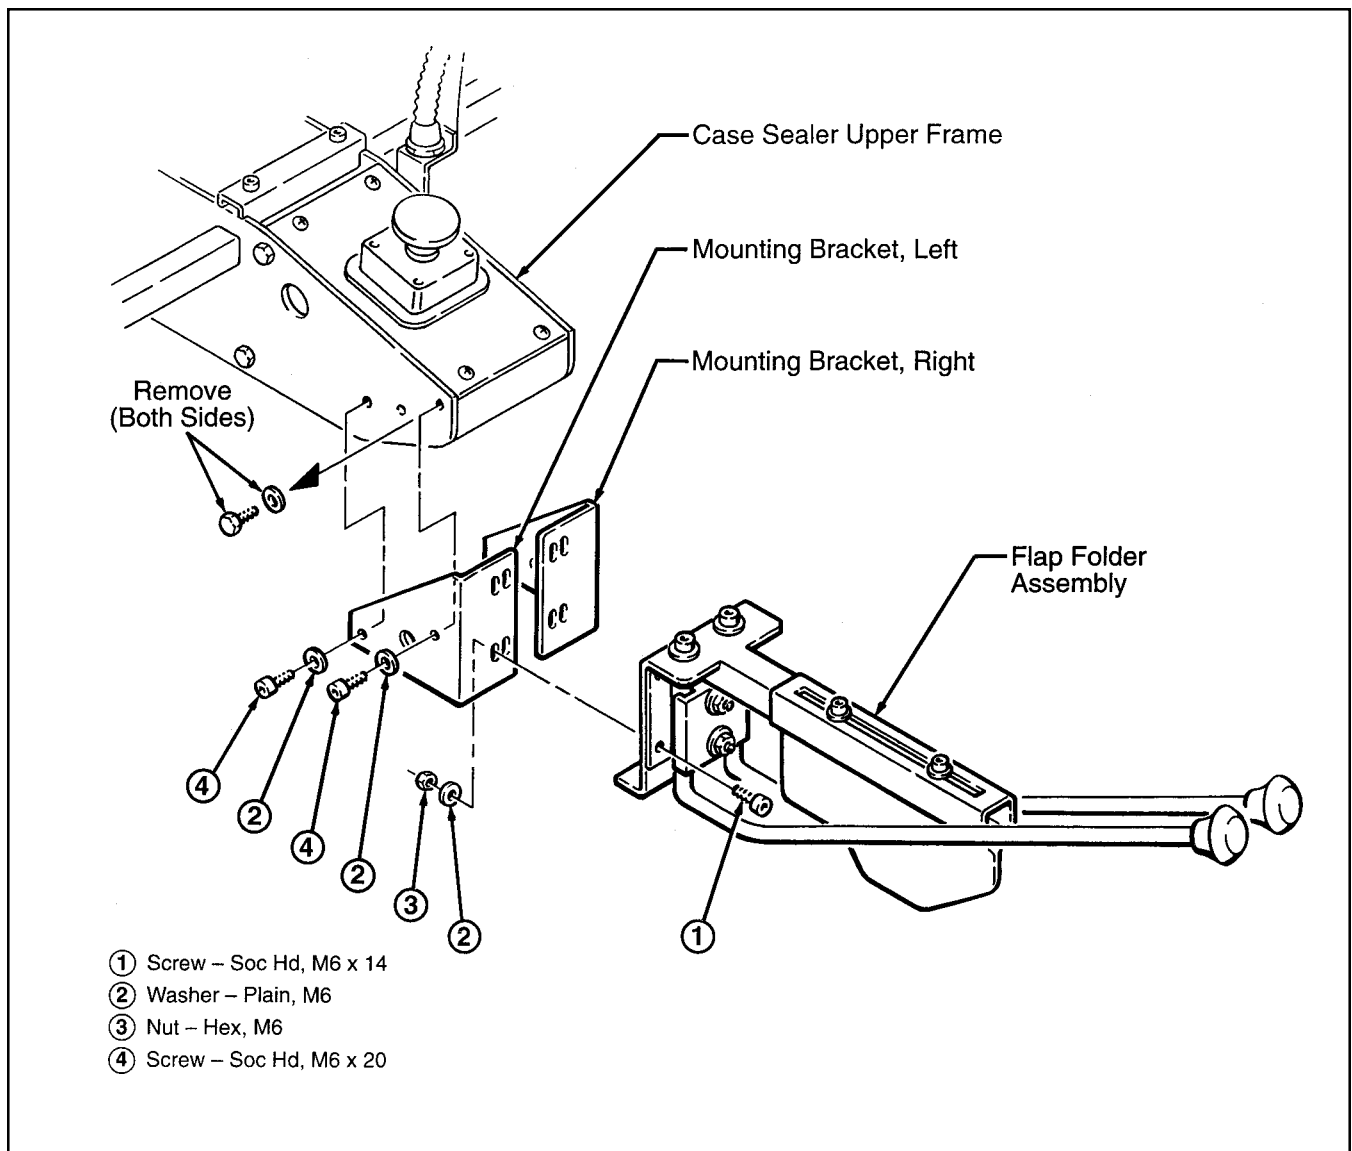

Figure 2 – Installing Flap Folder on 120a, 120a3 Case Sealers
Installing Flap Folder on 120a or 120a3 Case Sealers – Figure 2
3. Attach mounting brackets/flap folder to case sealer upper frame. Use screws and plain washers indicated in Figure 2.